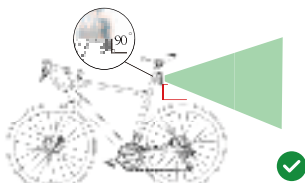

Figure 5
- Mounting the seatpost mount too low may block the radar signal with the tire, which will impact the detection performance. Refer to Figure 5 for a visual illustration.